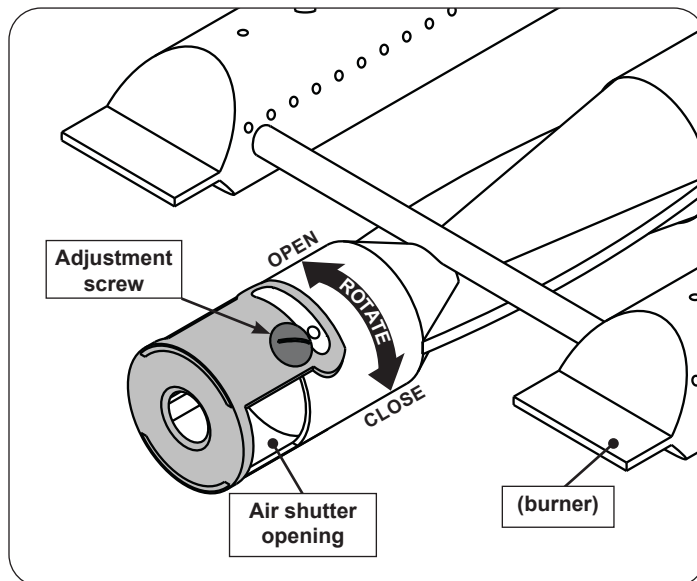

Fig. 47-2 Main burner air shutter adjustment detail
1. To adjust the air shutter, loosen the adjustment screw with a flathead screwdriver. Then rotate the shutter to open or close it. See Fig. 47-2 for details.